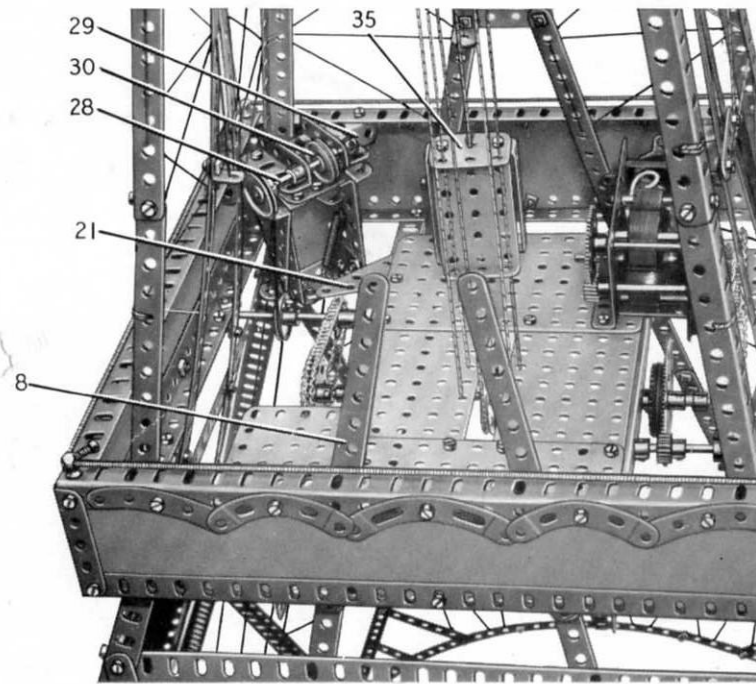

FIG. 7 Another view of the centre landing platform
The lift working to the centre platform is made by bolting  $1\frac{1}{2}$ " Angle Girders to each end of a  $2\frac{1}{2}$ " x  $1\frac{1}{2}$ " Flexible Plate. A  $2\frac{1}{2}$ " x  $\frac{1}{2}$ " Double Angle Strip (31) (Fig. 2) on each side is fixed between the Angle Girders, and a further  $2\frac{1}{2}$ " x  $\frac{1}{2}$ " Double Angle Strip (32) is arranged on each side. The Double Angle Strips (31) and (32) are bolted together at the top and are connected by a Fishplate at their lower ends. The guides for this lift are provided by a length of Cord tied to one of the 2" Angle Girders bolted to girder (29) (Fig. 7). The Cord is passed through the lugs of one of the Double Angle Strips (32), through a  $2\frac{1}{2}$ " x  $\frac{1}{2}$ " Double Angle Strip (33) (Fig. 2) bolted to the Hub Disc (6), and through the lugs of the other Double Angle Strip (32). The Cord is pulled tight and is tied to the second 2" Angle Girder. The lift-operating Cord is tied to a Fishplate bolted to the top  $1\frac{1}{2}$ " Angle Girder of the lift and to a Tension Spring placed between the two Angle Girders; it is then taken over Pulley (30) (Fig. 7) and round two 1" Rods held by Spring Clips in Double Brackets (34) (Fig. 2). The Cord is then passed through the lower  $1\frac{1}{2}$ " Angle Girder of the lift and is tied to the bottom loop of the Tension Spring so that the Spring is stretched slightly.